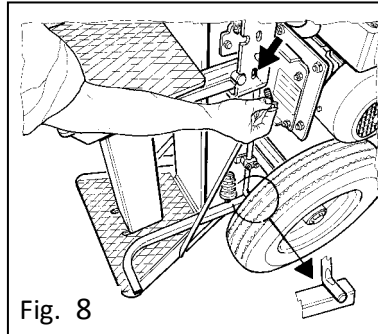

Fig. 8
- fix the board with the special screws supplied; (Fig. 8)